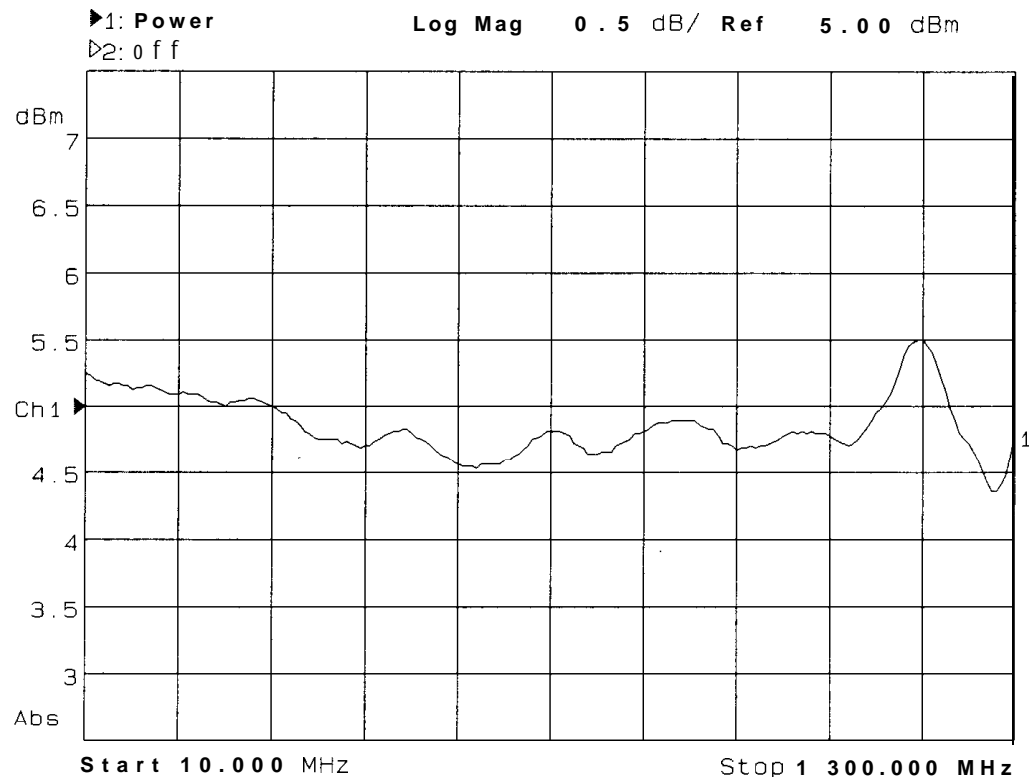

Figure 3-12. Example of a Power Measurement
2. Figure 3-12 shows the results of an example power measurement.
3. To interpret the power measurement, refer to Figure 3-12 or your analyzer's display if you are making this measurement on your instrument.